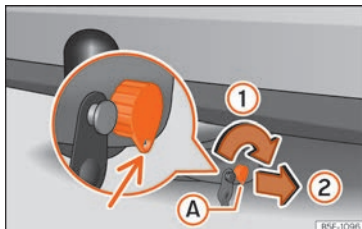

Fig. 256 Locking the lock.
- Turn key **A** in the direction of arrow **1** until the part of the key with the holes reaches the bottom position » **Fig. 256**.